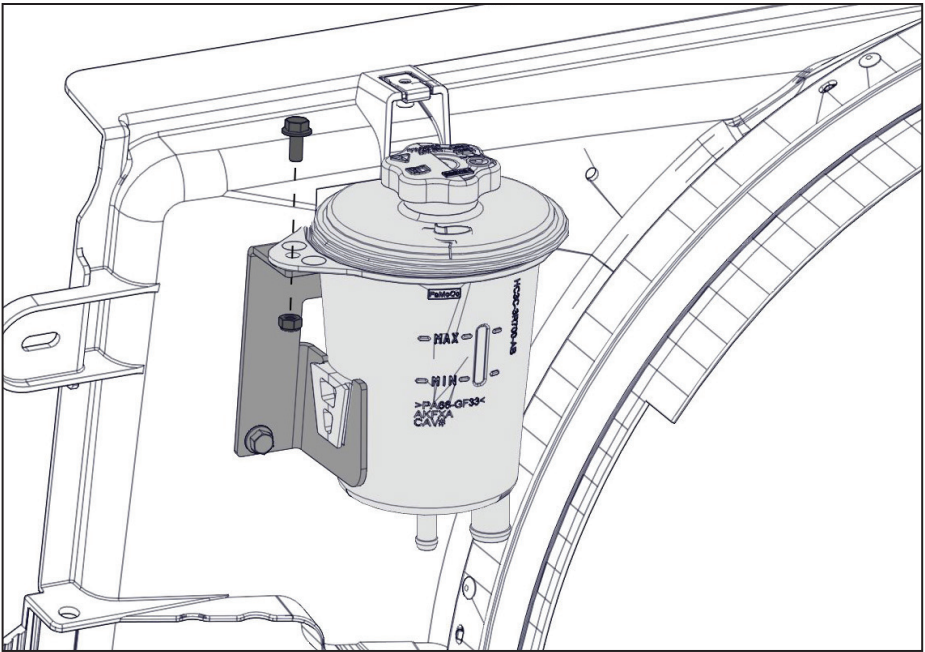

Figure 77 — Installing the power steering reservoir
- ☐ Install the power steering reservoir into the bracket. Ensure the power steering reservoir is not being pulled or stressed by the hoses. Secure the reservoir in place with the supplied fastener (Figure 77).